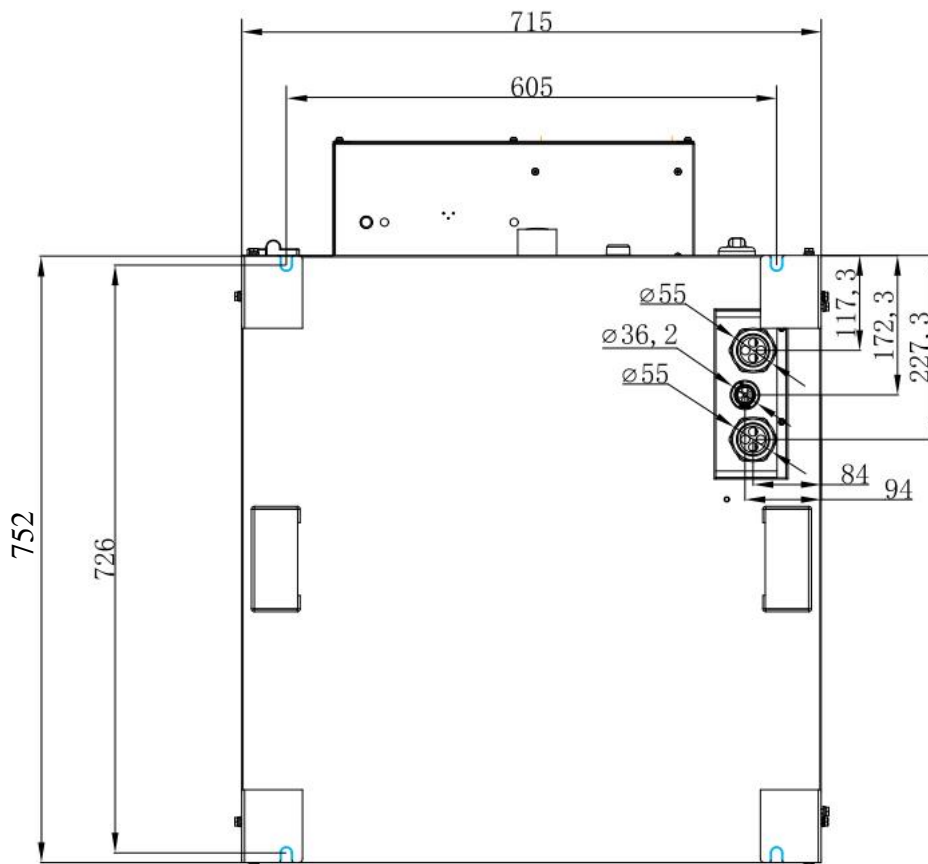

Figure 3.2.6 Location of under-cabinet mounting slots
Mounting slots in the bottom of the cabinet are as follows (Figure 3.2.6).
(1) Refer to Fig. 3.2.6 to mark the position of the base mounting holes to the cement